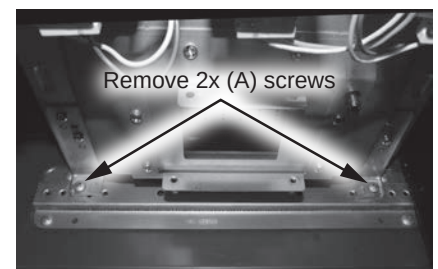
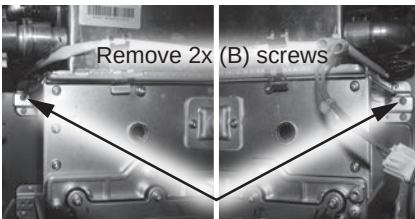

Figure 152 - Removing primary HEX (A) screws
Figure 153 - Removing primary HEX (B) screws
- 44 Locate the bottom horizontal bracket and two (A) screws securing the primary heat exchanger assembly to the backside of the water heater cabinet as shown in Figure 152. Use a 12" magnetized Phillips screwdriver to remove the screws. Place them aside in a safe place for reinstallation.
- 45** Locate the upper horizontal bracket and two (B) screws securing the primary heat exchanger assembly to the backside of the water heater cabinet as shown in Figure 153. Use a 12" magnetized Phillips screwdriver to remove the screws. Place them aside in a safe place for reinstallation.
75 Locate the four primary heat exchanger mounting screws previously removed in **Steps 44 & 45**. Use a 12" magnetized Phillips screwdriver and four screws to secure the heat exchanger to the two horizontal brackets. See Figure 152 & Figure 153.